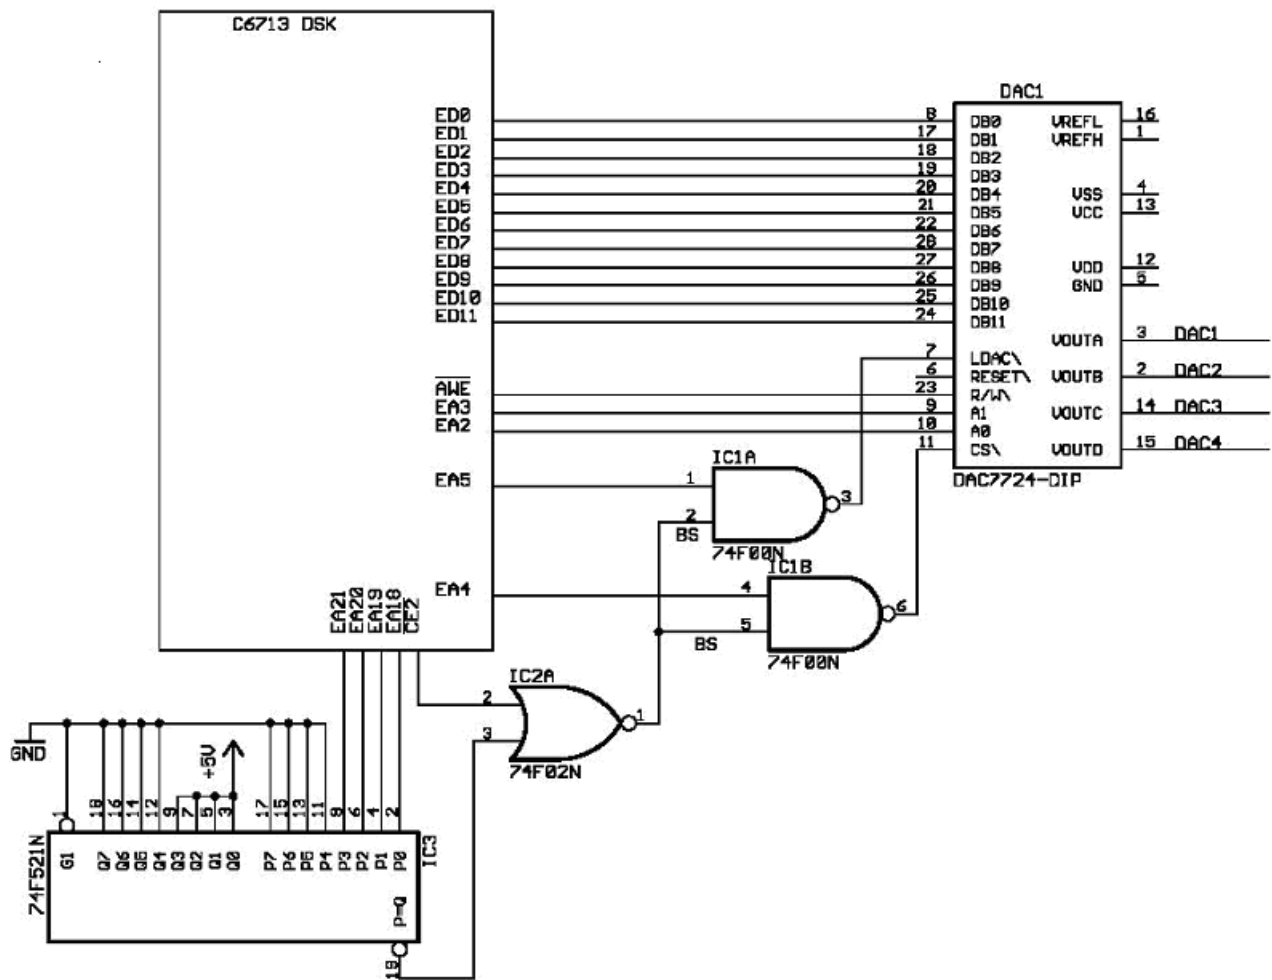

Figure 2: DAC portion of the Daughter Card
Now let's take a look at the source code for the function **writeDAC7724** in the file **dac7724.c**. Along with the source code, you will want to study the schematic given in Figure 2 above and also look at the DAC7724's datasheet (coecsl.ece.uiuc.edu/ge423/datasheets/dac7724.pdf). The abbreviation, DAC, stands for Digital-to-Analog Converter.
There are two functions that deal with the DAC: **Init_DAC7724** and **writeDAC7724**. The function **Init_DAC7724** initializes the DAC7724 by zeroing the 4 channels and resetting the RESET pin. The function we are going to focus on is **writeDAC7724**, which is the nuts and bolts function that communicates to the DAC7724 chip. Looking at Figure 2, you will see that only 12 of the 32 data lines (ED0-11) are connected between the DSK and the DAC chip. This is because the DAC7724 is only a 12-bit DAC. So to write a value to one of the DAC channels you perform a write cycle that sets pins A0 and A1 to the desired DAC channel, and the desired DAC value on pins D0-D11. After writing the new output value, the DSP needs to instruct the DAC7724 to latch this new value to the analog output stage. By sending a pulse to the DAC7724's $\overline{\text{LDAC}}$ pin, the DAC is instructed to latch. In the daughter board design, we choose to use a write instruction with EA5 high to produce this pulse.
It is in this step that the DAC chip needs to know that it is selected (will be used). If you refer to the circuit diagram of Figure 2, we see that when EA18-EA21 are all high, the 74F521 comparator chip's output "O" is driven low because the jumper settings are set to compare to 1111. With $\overline{\text{CE2}}$ low the NOR gate drives its output high. This signal is named the "Board Select" (BS) because this signal is used for every chip on the daughter card to indicate when the DSP is writing to the daughter card. Now with BS high and EA4 high the NAND gate's output is driven low. This selects the DAC7724, which has an active low chip select ($\overline{\text{CS}}$) input. The lines EA2 (connected to A0) and EA3 (connected to A1) are both low selecting the DAC1 input register. (Step 1.c.) Data lines ED0-11 are set with the value in *rawdac1*. (Step 2) Finally $\overline{\text{AWE}}$ (connected to $\overline{\text{WR}}$) is pulsed low. This causes the data on ED0-11 to be transferred to the DAC1 register in the DAC7724. (Step 3) The $\overline{\text{CE2}}$ is automatically pulled high by EMIF. We are now ready to write to the second DAC channel